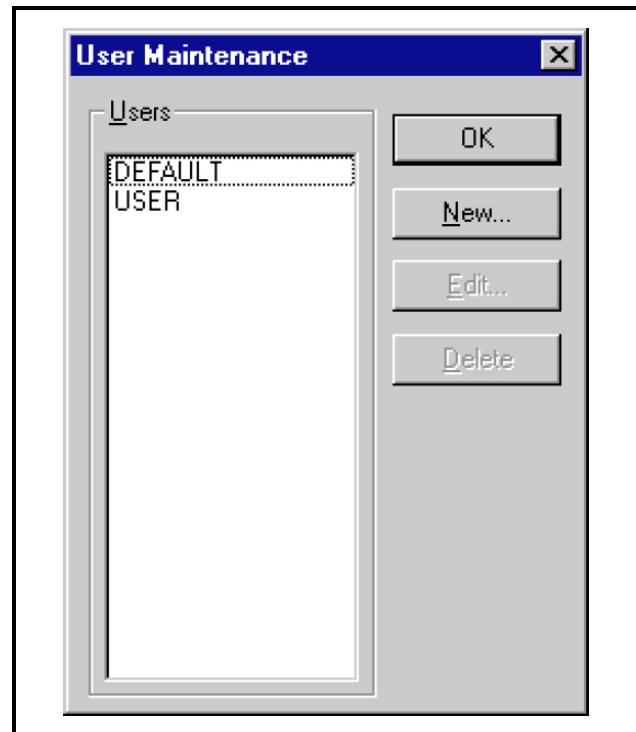

Figure 2-2 - User Maintenance Dialog Box
1. From the System menu in the UltraSite toolbar, select the User Maintenance option. The User Maintenance dialog box (Figure 2-2)